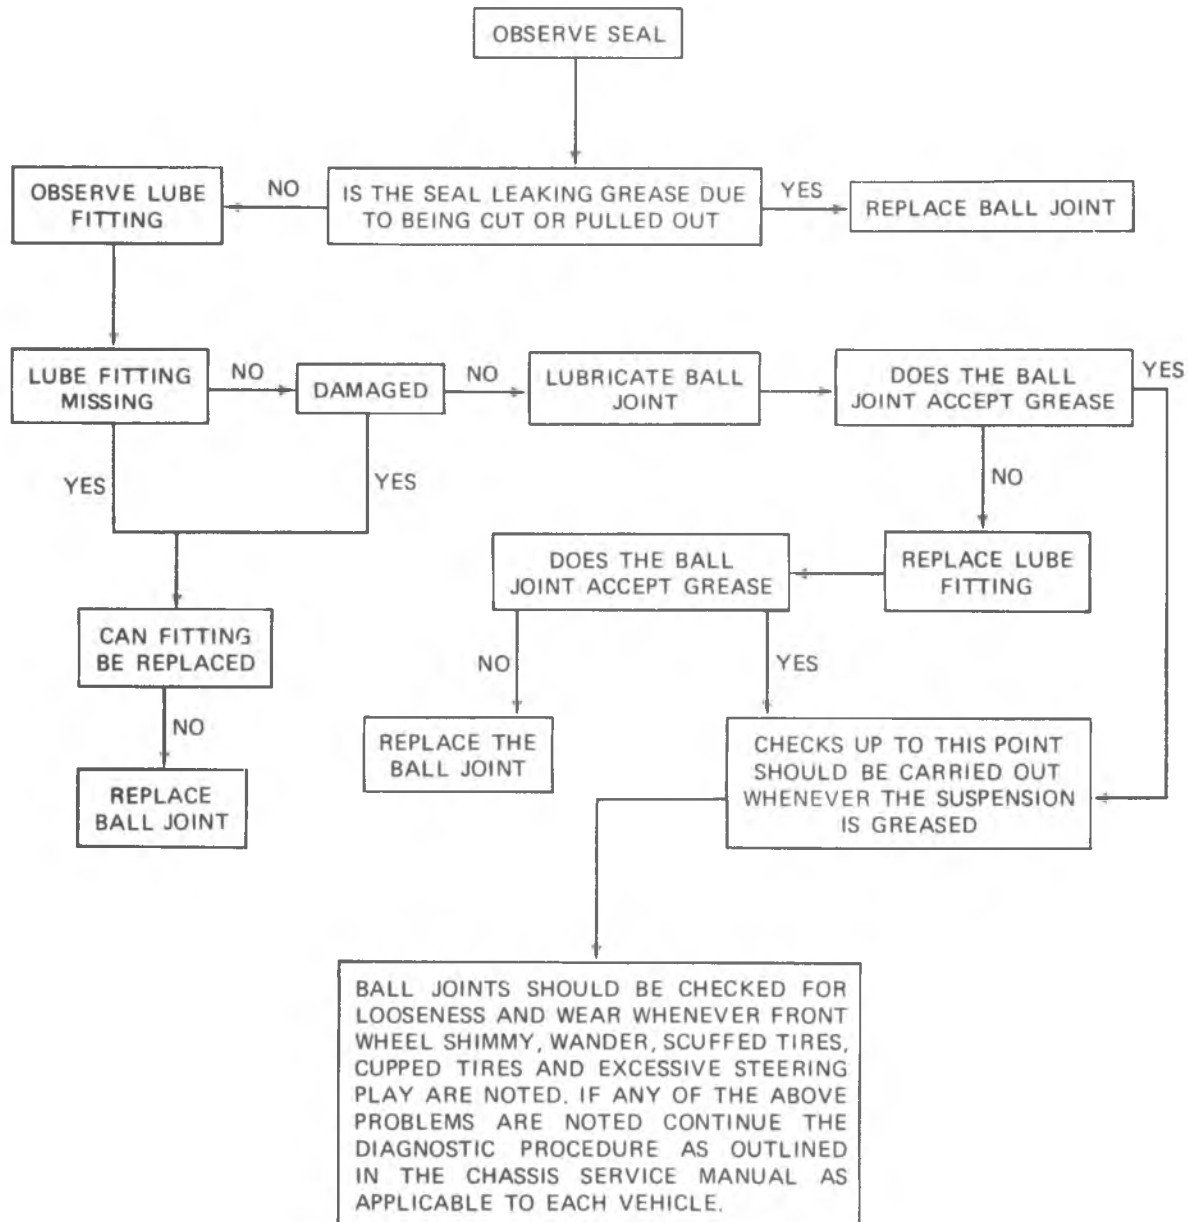

Fig. 3C-7--Ball Joint Diagnostic Procedure
- Inspect shocks for leaks in seal cover area. Shock fluid is a very thin hydraulic fluid and has a characteristic odor and dark brown tint (Figure 3C-8).